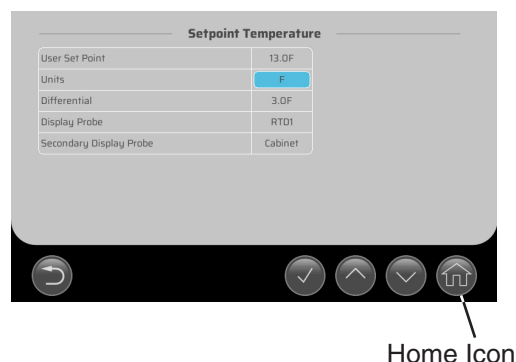

Fig. 22
- 6) Press the home icon to return to the touchscreen setup view. See Fig. 22.